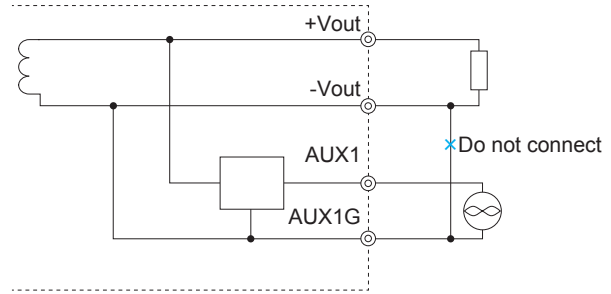

Fig.6.4 When using AUX1
- Do not connect AUX1G- to -Vout as current may flow through AUX1 (fig 6.4).